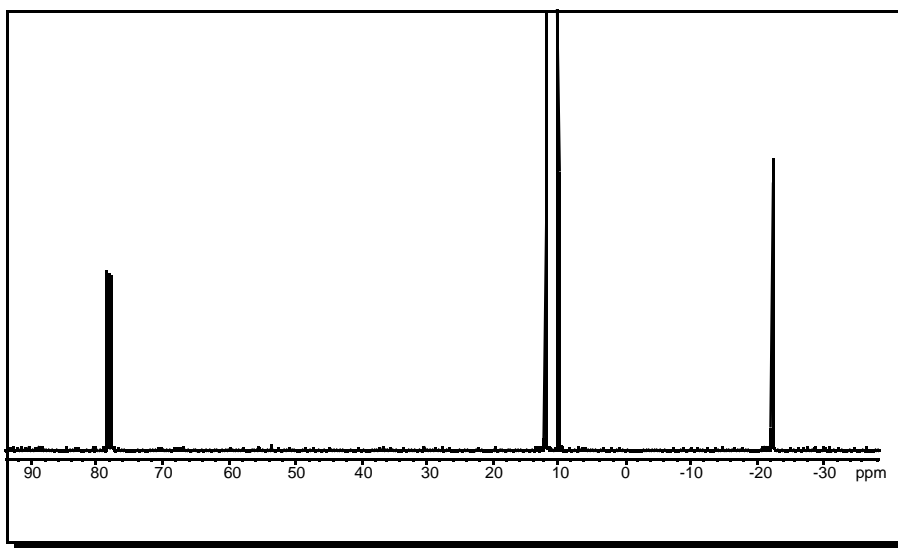

Figure 45. Normal ^{13}C Spectrum of $^{13}\text{CH}_3\text{I}$
1. The first time you perform this experiment, cable the system for normal ^{13}C observe, and obtain a normal ^{13}C spectrum in the usual way. The ^{13}C signal from $^{13}\text{CH}_3\text{I}$ is extremely far upfield (22.3 ppm), so depending on your standard parameters you will probably need to either increase your spectral width or move your transmitter offset upfield (to small or more negative numbers) to prevent foldover of the signal. A typical result is illustrated in Figure 45 in which the peak at 22 ppm is the $^{13}\text{CH}_3\text{I}$ signal. Note that the decoupler should be on. Increase scans for low field systems (for example, 16 for 300 MHz).